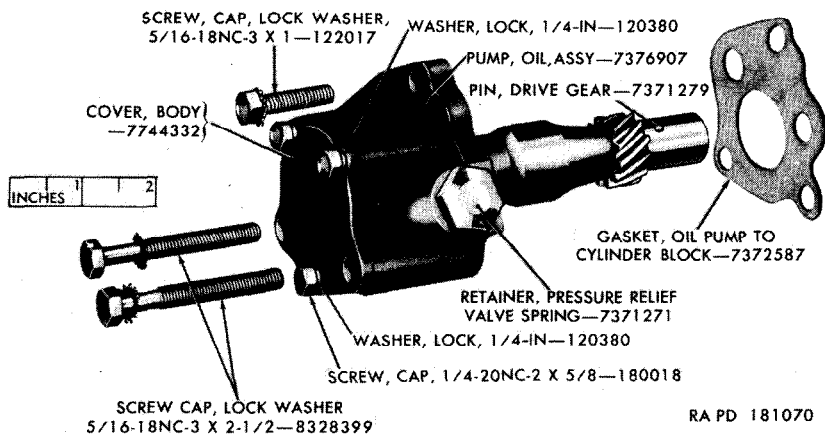

Figure 59. Oil pump assembly.
- a. Use an abrasive wheel or a file to cut off either end of the oil pump drive gear pin (fig. 59). Drive the pin out of the gear, using a $\frac{3}{64}$ -inch drift punch. Remove the gear from the end of the shaft.
- b. Remove the three cap screws securing the oil pump body cover (fig. 59) to the oil pump body. Remove the cover and gasket.
- d. Back the pressure relief valve spring retainer (fig. 59) out of the oil pump body and remove the retainer gasket, the shim, the pressure relief valve spring, and the pressure relief valve.